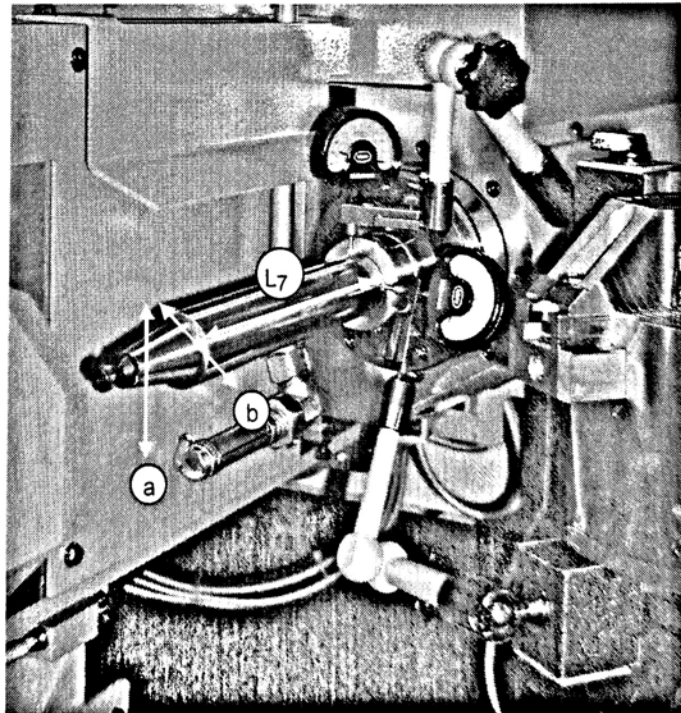

Figure 10 Measuring arbor clamped in the main bearing, without counter-bearing
- Place dial gauges against the measuring arbor (see figure 10)